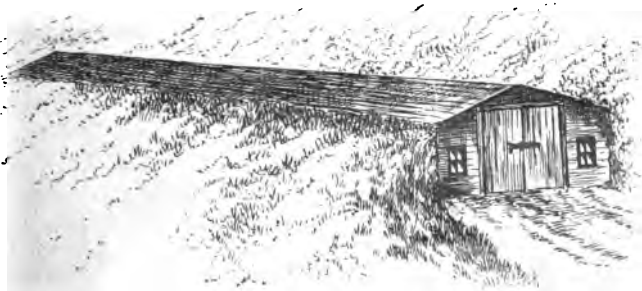
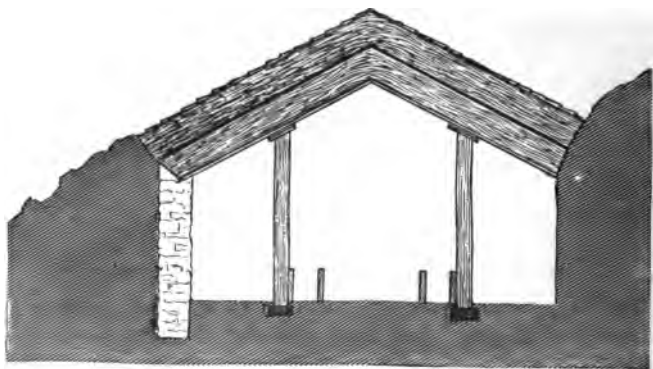

FIG. 89. PERSPECTIVE VIEW OF FRUIT CELLAR.
FIG. 90. CROSS SECTION OF FRUIT CELLAR.
**STORAGE CELLARS WITHOUT ICE** have been in use for years, with profit and convenience to their owners. A convenient place is to locate them in the side of a slight hill, as shown in Fig. 89. A cross section is shown in Fig. 90. An excavation the width of the cellar is made, the earth being thrown up against the outside of the stone wall, which is built on the lower hillside. The opposite wall is formed by the cut face of